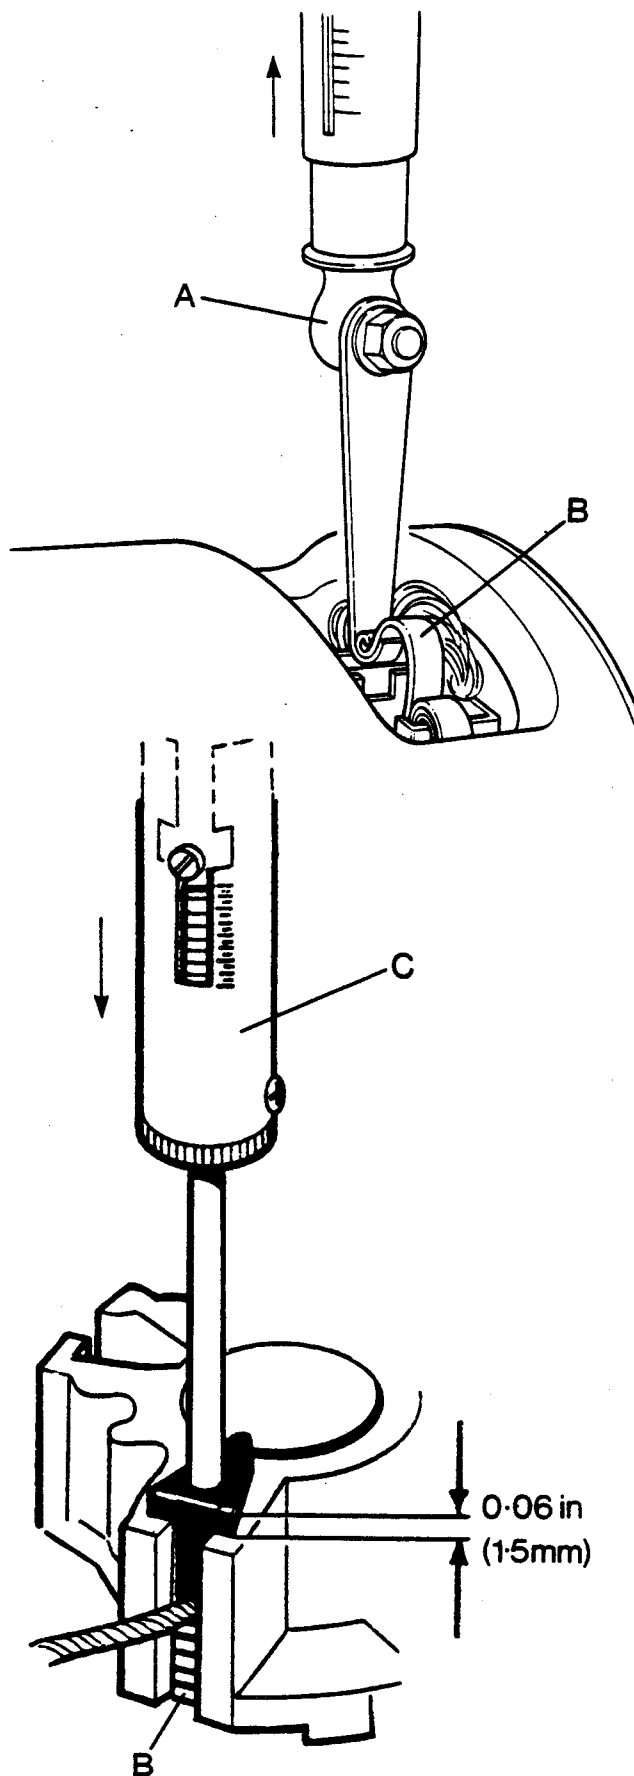

Figure H81
5. Check the pressures of the brush springs as shown in Figure H81. If the pressure is less than 1.22kg (43oz) M50 and M45 types or 1.02kg (36oz) 3M100 type, install new springs.